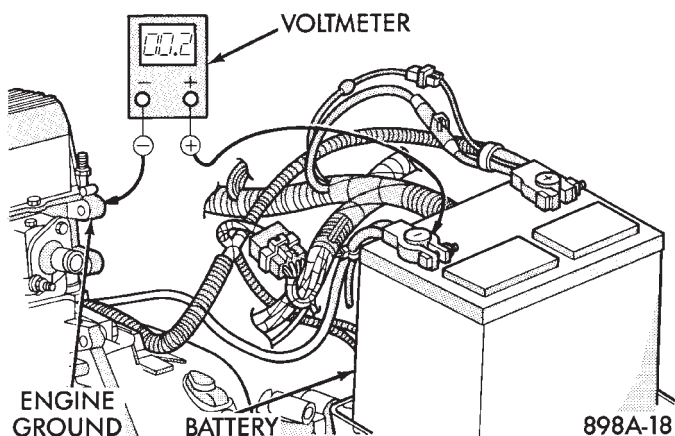

Fig. 7 Test Ground Circuit Resistance -Typical
(4) Connect the voltmeter to measure between the battery negative terminal post and a good clean ground on the engine block (Fig. 7). Rotate and hold the ignition switch in the Start position. Observe the voltmeter. If the reading is above 0.2 volt, clean and tighten the battery negative cable attachment on the engine block. Repeat the test. If the reading is still above 0.2 volt, replace the faulty battery negative cable.